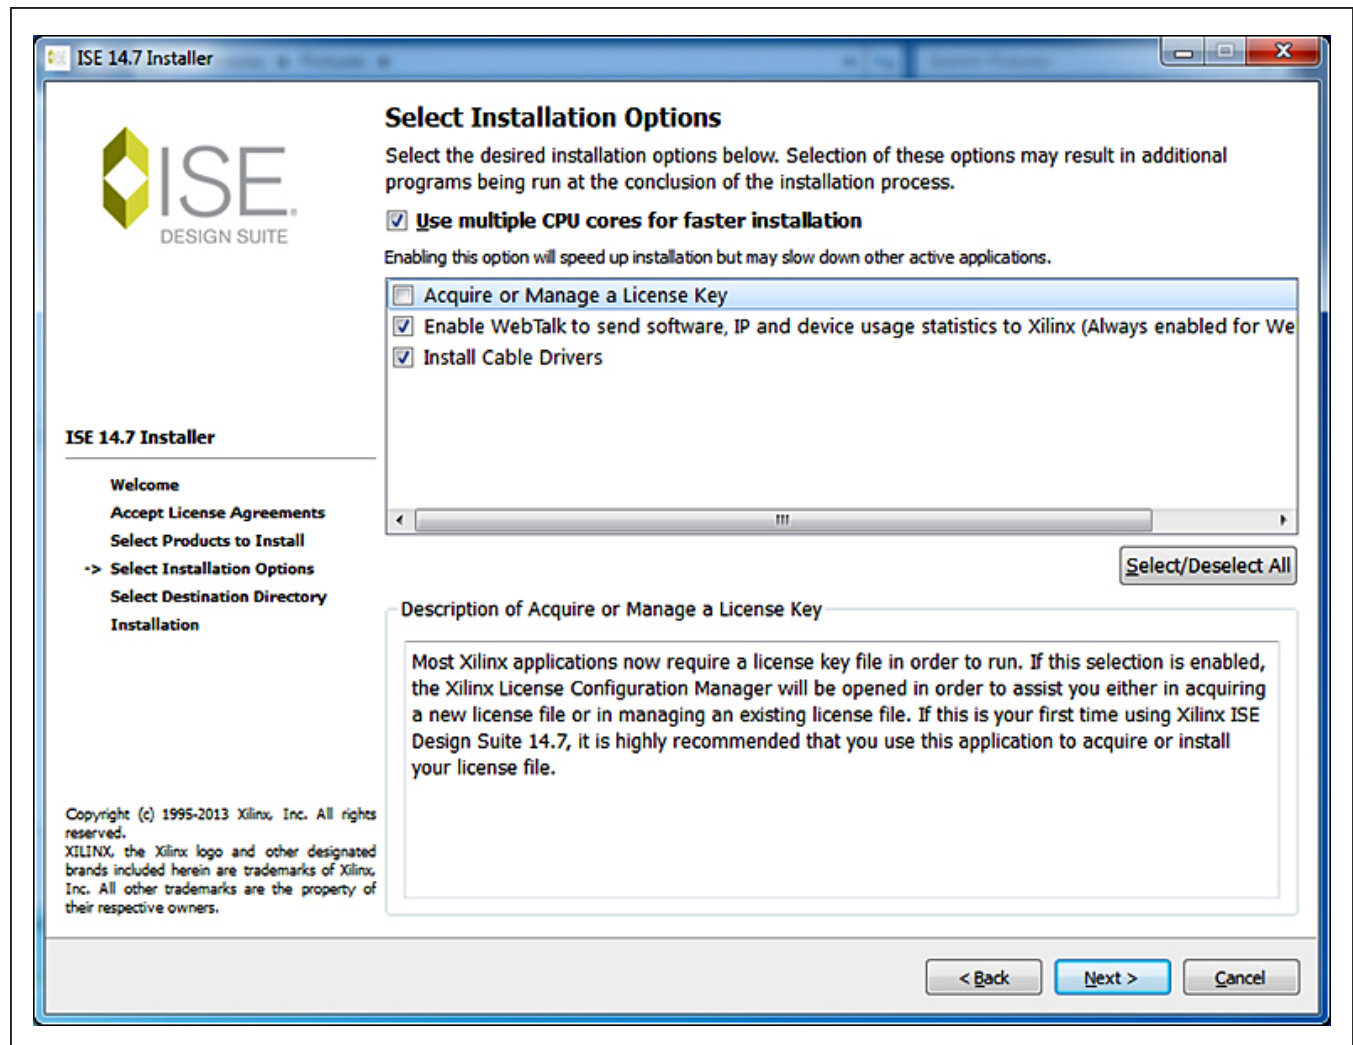

Figure A1-3. LabTools Installation—Uncheck “Acquire or Manage License Keys”
- 6) The “Select Installation Options” page will appear (Figure A1-3), **uncheck** the “Acquire or Manage a License Key” option and click Next > to continue.